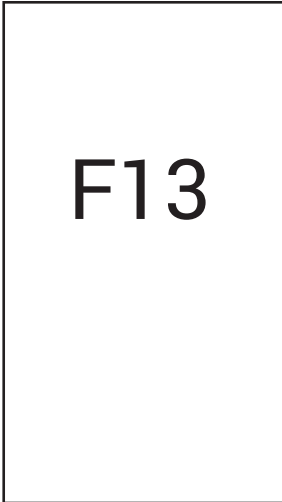

fig. 4
**F-type fault (fig. 4):** A fault which will be automatically reset after the problem has been eliminated.